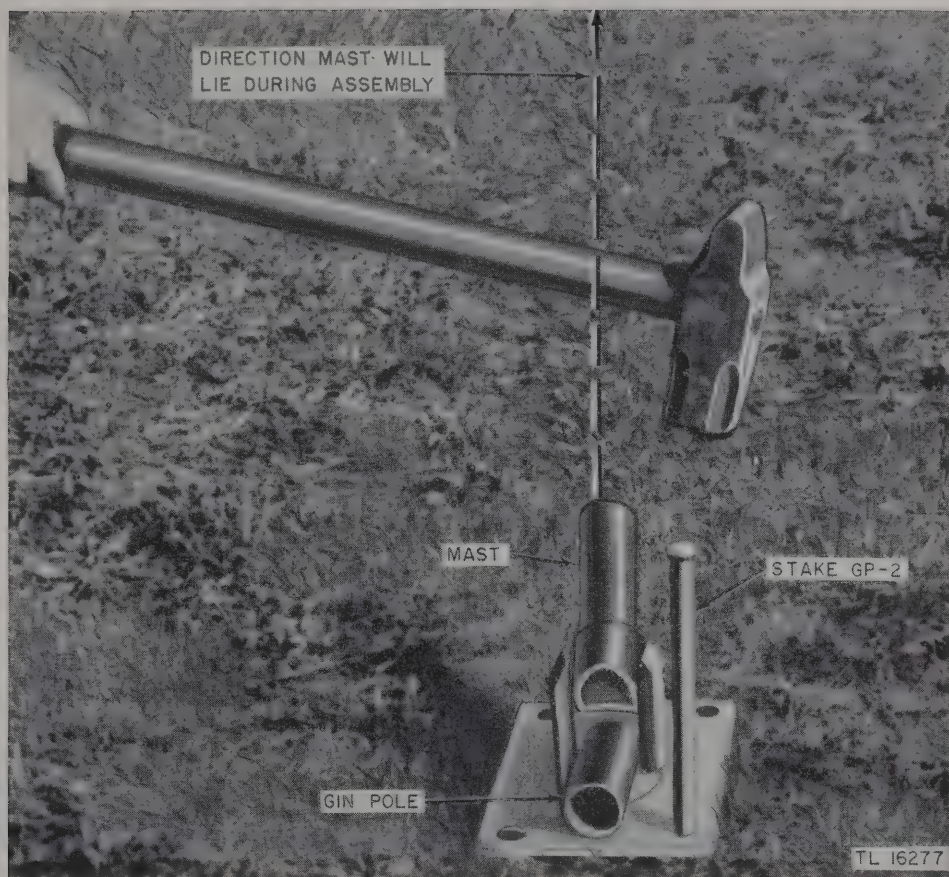

Figure 60. Staking down mast base.
- (14) Attach the S-hook (or snap-hook) of the single-sheave pulley block to the guy plate on the gin pole. Attach the ring of the double-sheave pulley block to the snap-ring on the gin-pole stake.
- (15) Walk the gin pole up to its original position without letting the mast base leave its original position. Take all the slack out of the block and tackle.
- (16) Drive the four Stakes GP-2 through the holes in the mast base (fig. 60).
- (17) Simultaneously tighten the two side guys on stakes No. 2 and No. 4, by
of the assembled gin pole. Slip the ring end of a stake ring and snap assembly over the guy plate. Fasten the hook of the double sheave pulley to the gin pole guy plate. Make sure that the slots and pins of all mast sections are fully engaged, so that it is impossible to rotate one mast section relative to another or relative to the mast base (fig. 60). Lift the top end of the mast off the ground, and place Case CY-444/TRC-1 or CY-790/TRC-1 under the eighth section (fig. 58).
- (5) Install two of the plastic or fiberglass mast extensions over the end of the top mast section and next to the top guy plate. (One or two spare extensions are provided.) Install the mast-head support (part of the assembled antenna array) on the top mast extension section. Make sure that the pin in the masthead seats in the slot in the mast extension section so that it is impossible to rotate the array with respect to the mast (fig. 60).